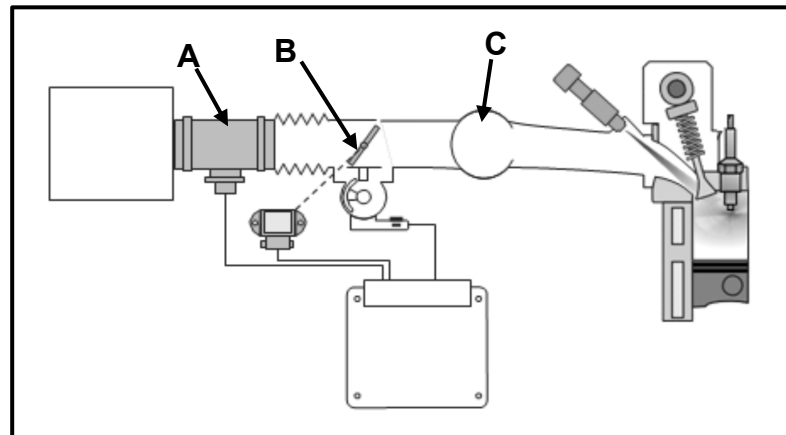

FIGURE 10.6
- 10.6 FIGURE 10.6 below shows the air-induction system. Answer the questions that follow.